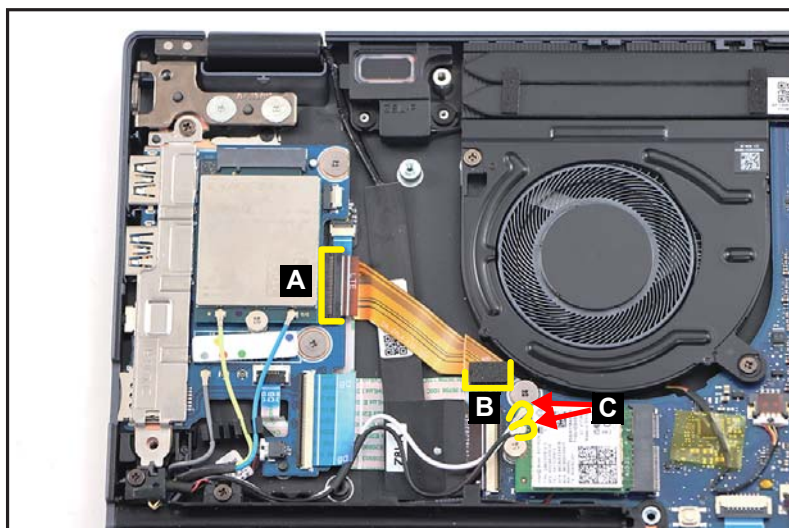

Figure 1-18. LCD Module Removal
1. Disconnect one end of the LTE FPC from the LTE board connector (A). Then disconnect the other end of the LTE FPC from the mainboard connector (B) (Figure 1-18).
2. Disconnect the WLAN antennas cables from the WLAN module connectors (C) (Figure 1-18).